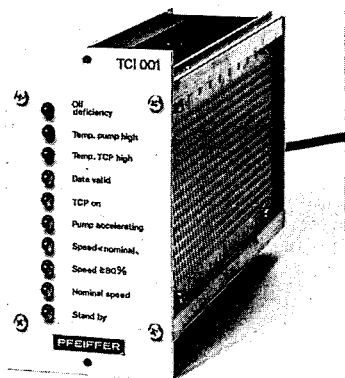

Fig. 2
- Zum Anschluß an Computer ist das Zubehörgerät Interface TCI 001 Fig. 2 erforderlich.
- For connection to the computer the interface TCI 001 fig. 2 is required as accessory.
- The TCI 001 Fig. 2 converts the output signals of the TCP into floating signals which can be processed by the computer.
- Pour le branchement sur l'ordinateur l'appareil accessoire Interface TCI 001 fig. 2 est nécessaire.